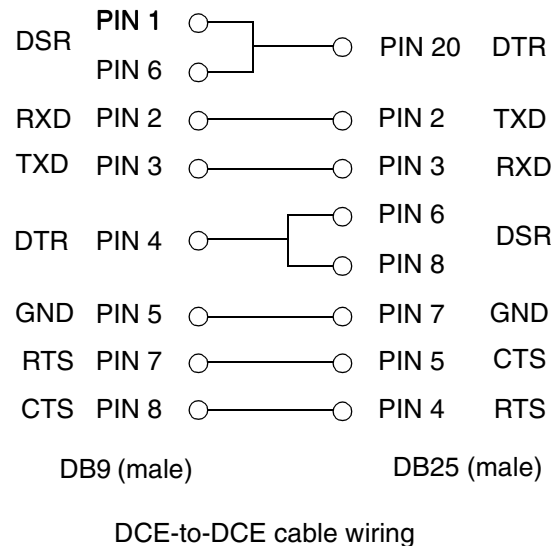

Figure 30. Data Communications Connection
3.30 Use a DCE-to-DCE cable (Black Box Corporation p/n B1BA22722) or equivalent cable to connect from the COM connector on the backplane to the communications device (refer to Table U and Figure 30). The DCE-to-DCE cable is a 1.8 meter (6 foot) cable with male DB9 and DB25 connectors.